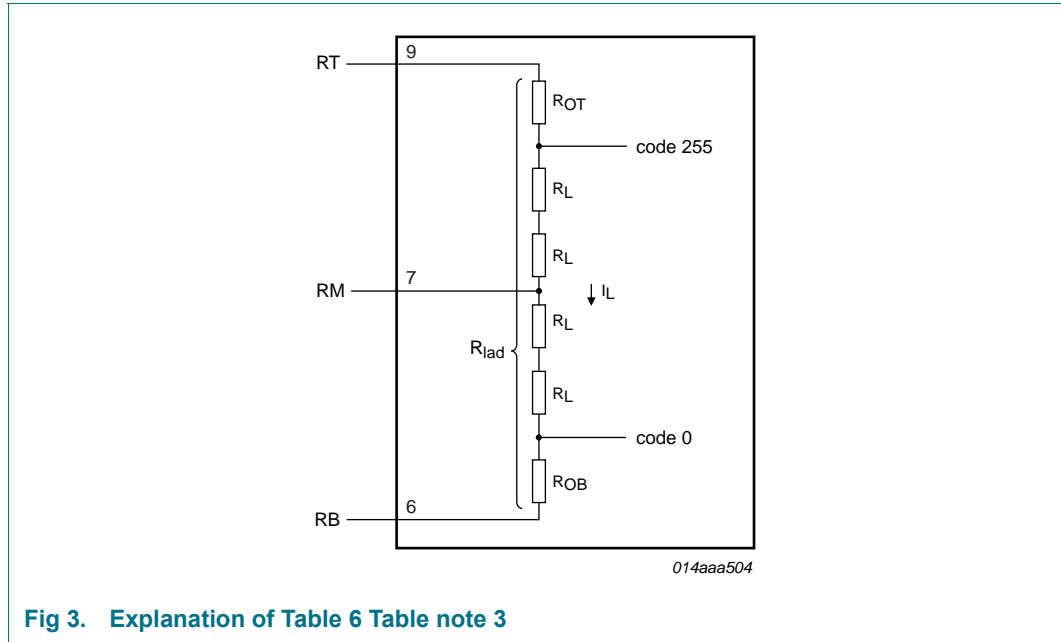

Fig 3. Explanation of Table 6 Table note 3
- [3] To ensure the optimum linearity performance of such a converter architecture the lower and upper extremities of the converter reference resistor ladder are connected to pins RB and RT via offset resistors R_{OB} and R_{OT} as shown in Figure 3.